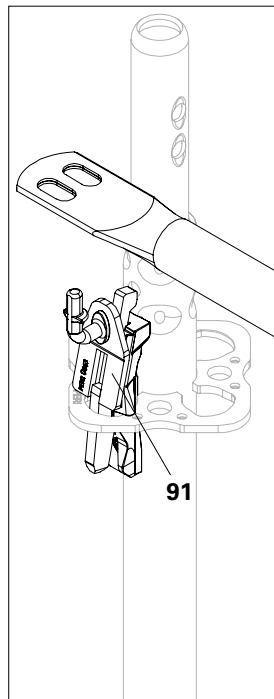

Fig. A11.03a
1. Insert Guardrail Holders EPW (**91**) into the rosettes of the Standards UVR-2. Guardrail hooks must point inwards towards the deck. Secure the wedges. (Fig. A11.03a)